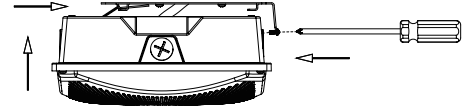

Fig. 2.5
5. Fasten the screw on the side of the luminaire (Fig 2.5).